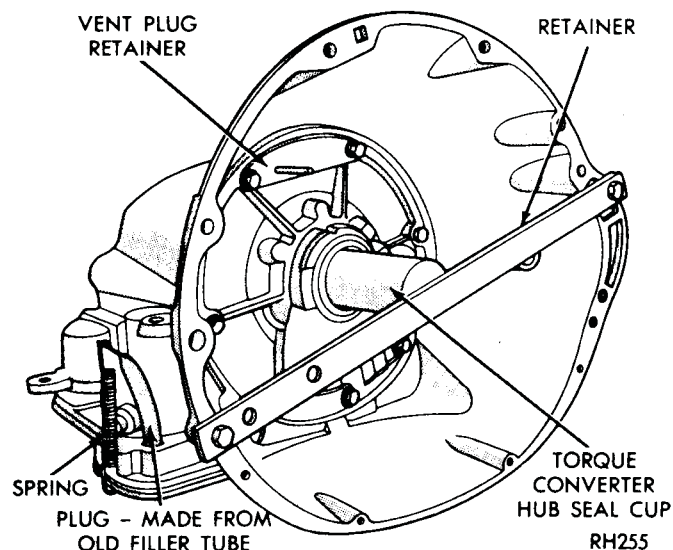

Fig. 12—Transmission Prepared for Test
(1) Install filler tube bore plug, propeller shaft yoke (tie in with cord or wire), flared tube fitting cap (on front cooler line fitting), and a short piece of tubing, flared at one end, on the rear cooler line fitting (Figs. 12 and 13).
(2) Remove necessary front pump housing bolts. Install vent plug (rubber stopper), and vent plug retainer preferably using longer bolts than those removed.
(3) With rotary motion, install torque converter